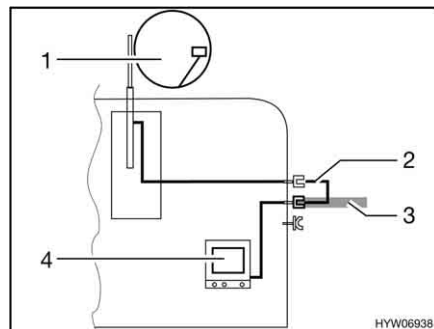

Fig. 154 TV inside the vehicle
- TV inside the vehicle (Fig. 154,4): Connection to roof antenna (Fig. 154,1) with connection cable (Fig. 154,2)
- TV inside the vehicle (Fig. 154,4): Connection to external antenna (Fig. 154,3)